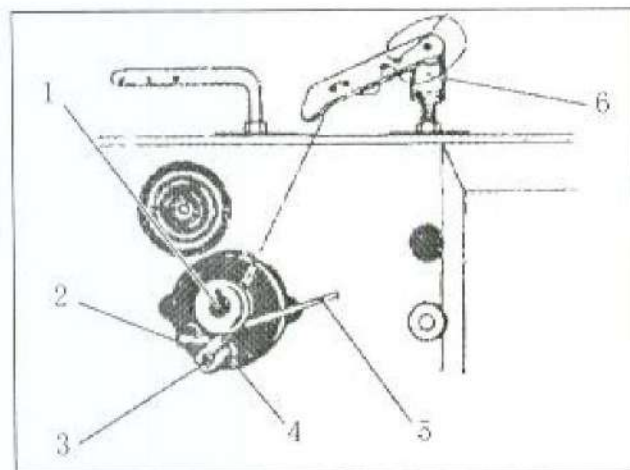

Fig.5
14. Wind the bobbin(Fig.5)
1) Inside winder (Fig.5)
27、 The needle punches into the center of the slot of the throat plate position adjustment (fig.5)